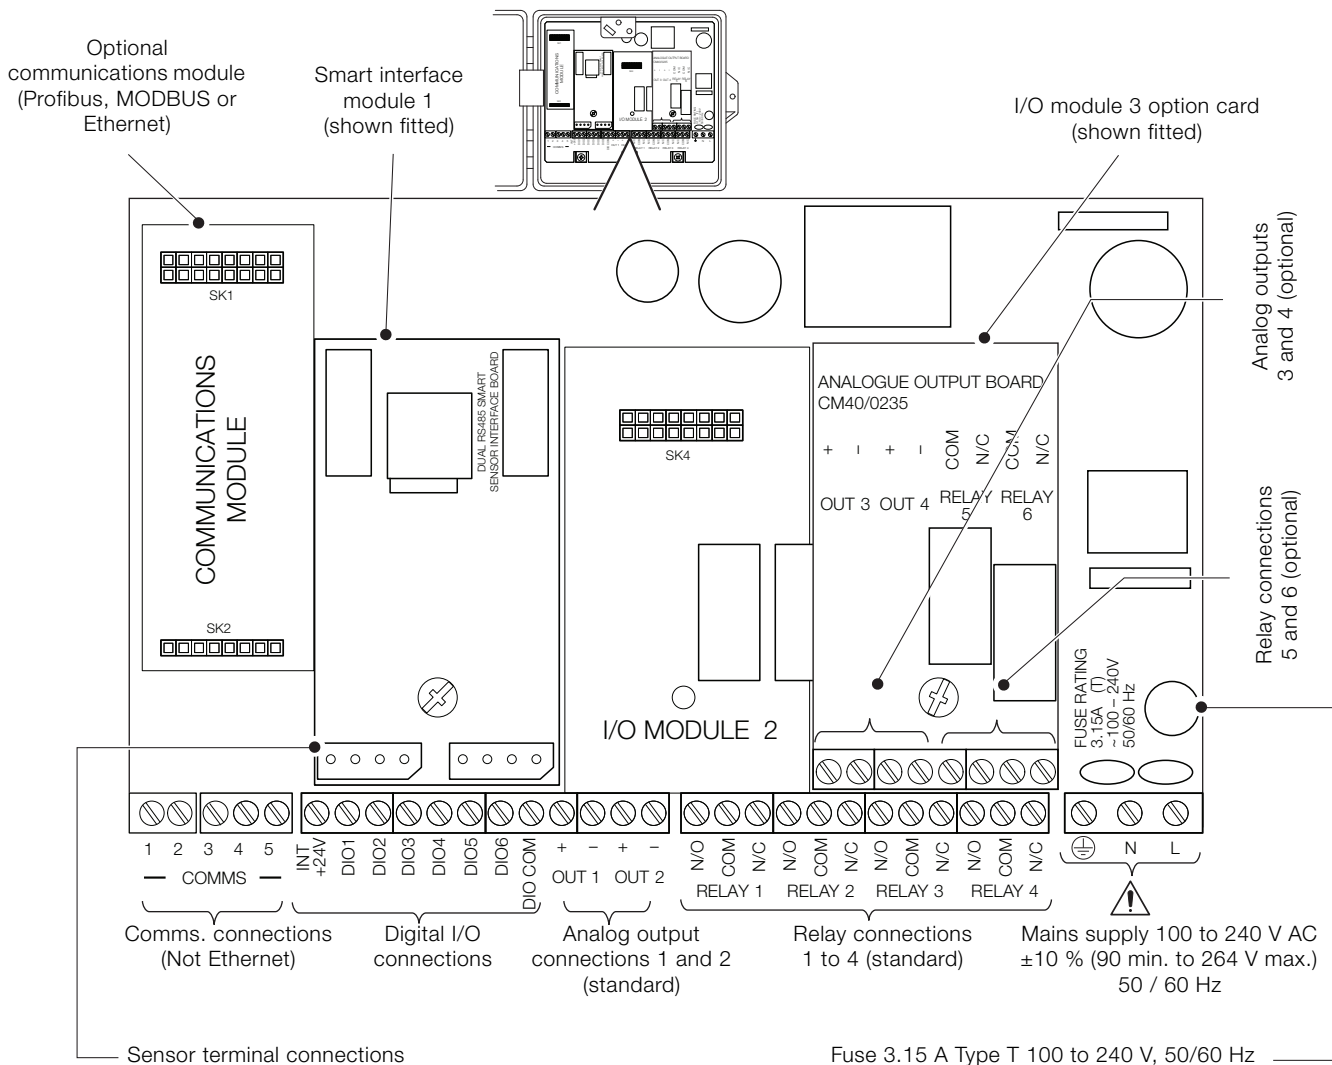

Fig. 2 Connections overview
- Ensure the correct fuses are fitted – see Fig. 2, page 7 for fuse details.